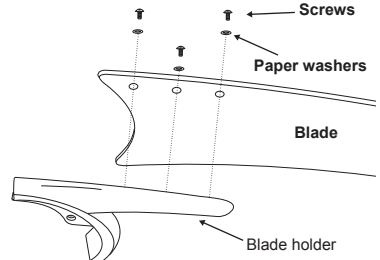

Figure 13
Step 1. Attach the fan blades to the blade holders by using three screws and paper washers as shown in Figure 13. Start a screw into the blade holder, do not tighten. Repeat for the 2 remaining screws and washers.